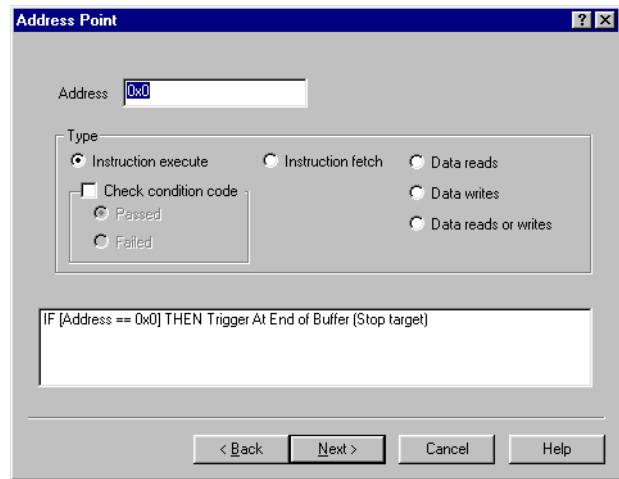

Figure 8-5 Address Point dialog box
9. Click on **Next>**. The Address Point dialog box shown in Figure 8-5 on page 8-8 is displayed.